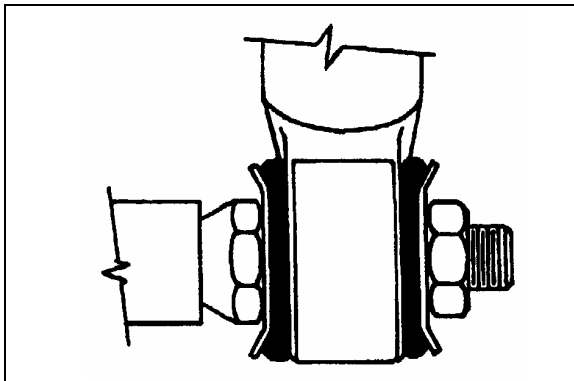

FIGURE 5: TYPICAL SHOCK ABSORBER SETUP 16009
3. Place the inner washers (with washer convex side facing the shock absorber rubber bushing) on each shock absorber pin (Fig. 5).